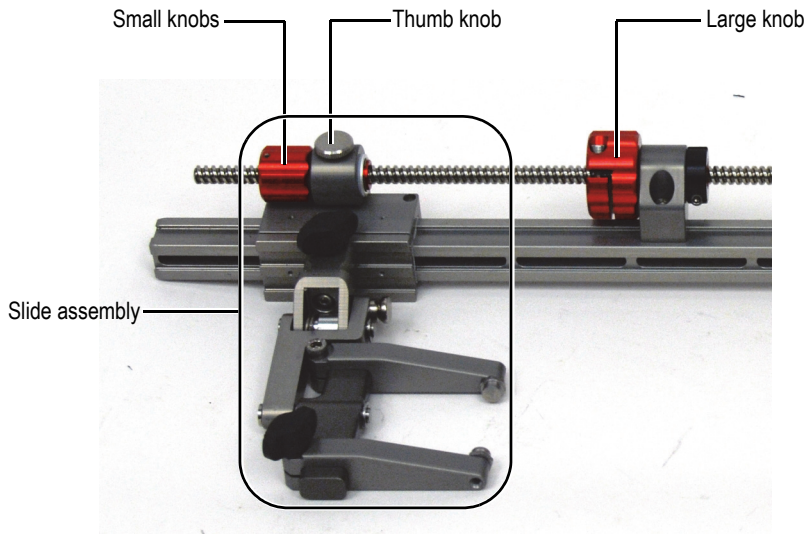

Figure 2-10 Adjusting the distance between the probes
1. Loosen the thumb knob on the slide assembly that you wish to adjust (see Figure 2-10 on page 43).